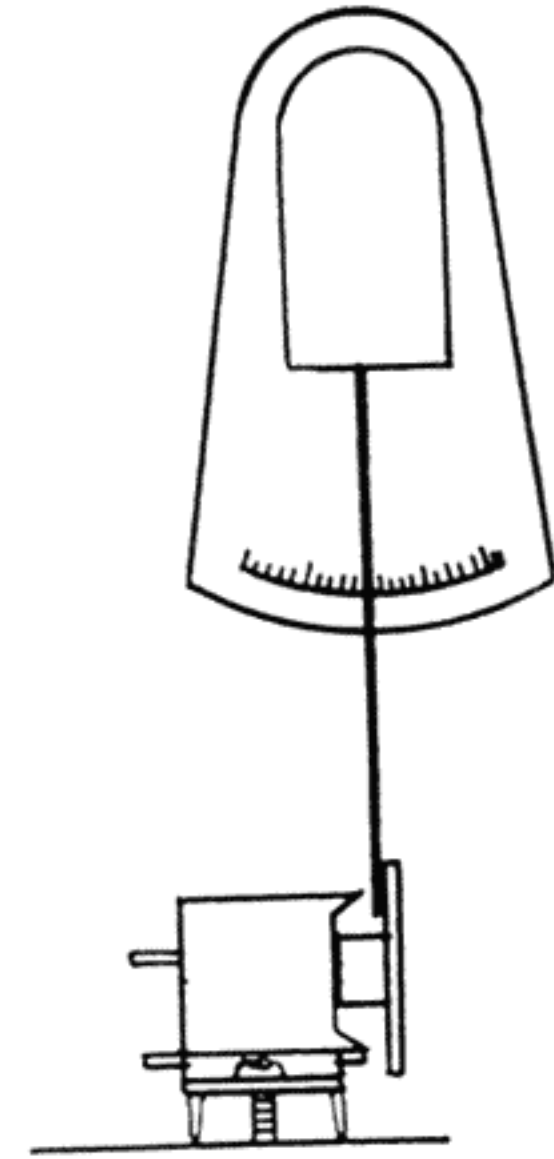

Fig. 8
(2) Pad Pressure (Fig. 8)
Measure with tension gauge as shown in Fig. 8 after setting on PLAY state. In case that pressure is too strong, decrease or fluctuation of tape speed will be remarkable, and in case of too poor, it will cause poor erasing or inferior tone.